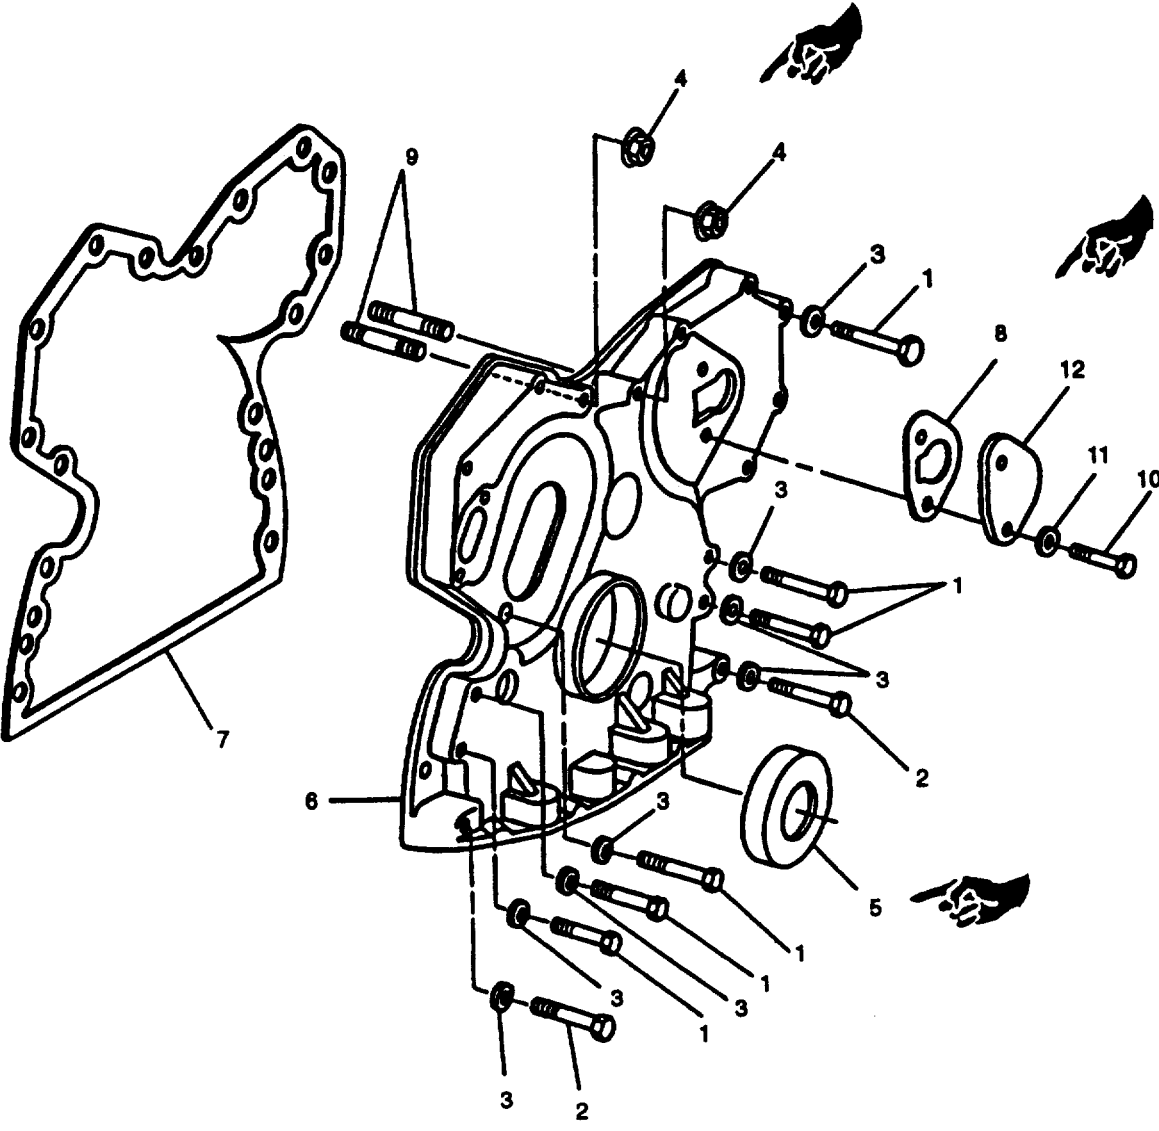

FIGURE 3-107. Timing Gear Cover
- j. Remove ten capscrews (1, FIGURE 3-107), two capscrews (2), fourteen washers (3), and two nuts (4) securing timing gear cover (6); remove cover (6) and gasket (7) from engine block. Discard gasket (7).
- k. Using suitable driver, remove seal (5) from front cover.
- l. Remove two studs (9) from engine block.
- m. Remove two capscrews (10) and washers (11) securing access cover (12); remove cover and gasket (8). Discard gasket.
- a. Install access cover (12, FIGURE 3-107) and new gasket (8) on timing gear cover (6) and secure with two capscrews (10) and washers (11).
- b. Install two studs (9) in engine block.
**Do not install seal (8) with timing gear cover mounted on engine, otherwise damage to cover resulting in leakage could occur. Use wood blocks to support back side of timing gear cover, otherwise damage could occur.**